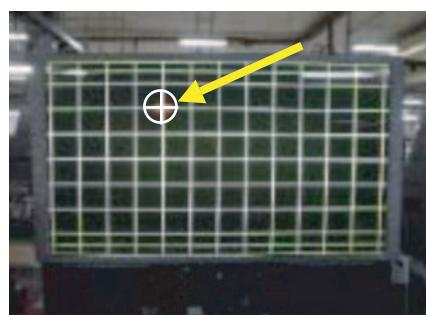

Fig. 2
b) Press [MENU] key on R/C, then display "Red + Green Crosshatch with Red Marker" or "Green Crosshatch with Green Marker" or "Blue + Green Crosshatch with Blue Marker". (Fig. 2)